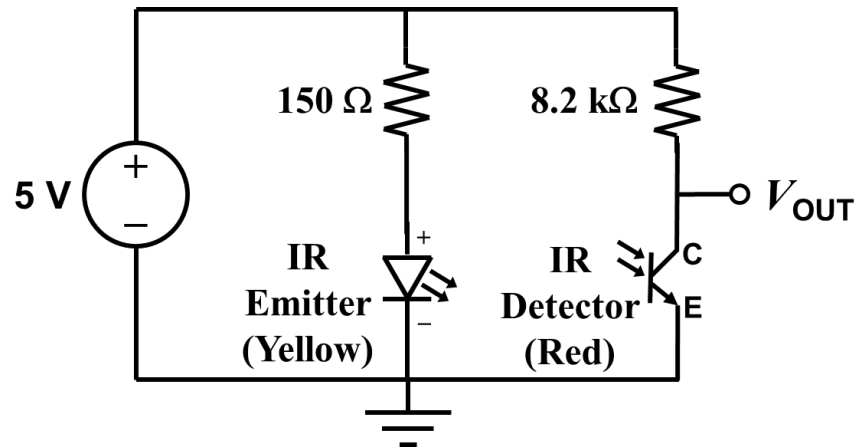

Figure 1. IR sensor circuit for determining its optimal working distance.
1. Construct the circuit shown in Figure 1 on your breadboard. Ensure that the IR emitter (dotted yellow) and the IR detector (dotted red) are placed in a straight line, close to each other with their protruding lenses (the bumps) **facing the same direction**, preferably out of the nearest breadboard edge and avoid facing any potential IR source, e.g. sunlight. With reference to the *IR Emitter* and *IR Detector datasheets* provided, which piece of information hints that the IR pair should be placed close to each other for optimum result? Briefly explain your choice.